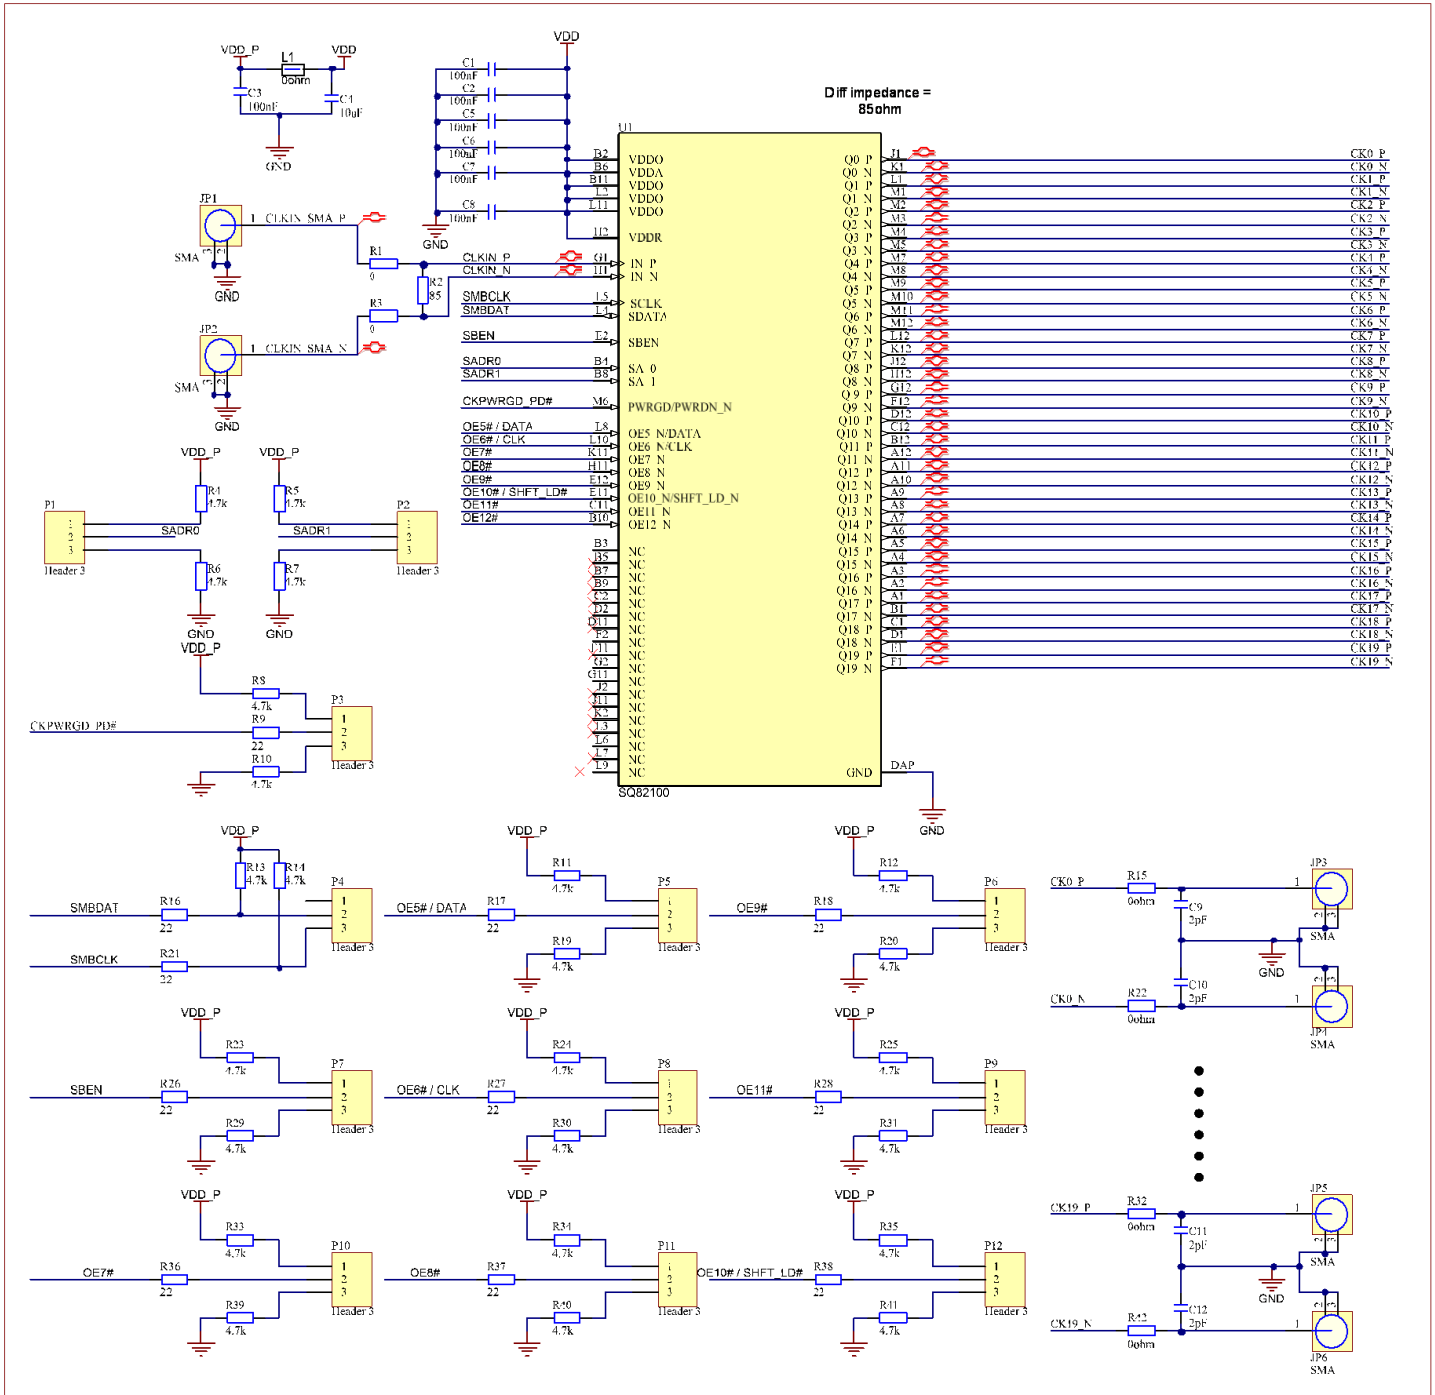

Figure 10. Application Schematic
- See Figure 10 for an example of an SQ82100 application schematic. The VCC is 3.3V.